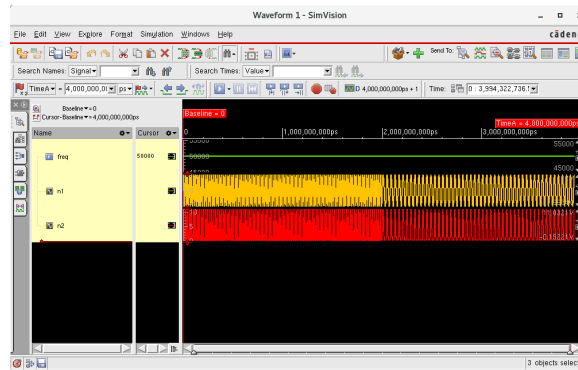

Figure 20: Anode (n1) and cathode (n2) voltage for a changing frequency
7. Reinvoke the simulator and restart the simulation as explained in step 8 of Tutorial 2. If you did everything right you should see something like in Figure 20.
8. As shown in Figure 20 you can also plot the value of the parameters you use. But be careful with this. Even though this parameter changes in time (you can see that the frequency of *n1* and *n2* changes at $t=2000\mu s$), the plotted value of the parameter *freq* stays constant. If you want to plot the actual value of the *freq* parameter in function of time, you can apply a trick. Add the dummy voltage source in the red box of Figure 21. Reinvoke the simulator. Now you can plot the signal of the *param_freq* node (as shown in Figure 22). This is a representation of the value of the *freq* parameter in function of time.